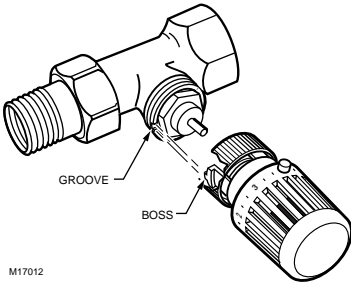

Fig. 5. Valve with groove in valve body neck.
1. Check for grooves in the neck of the valve body (see Fig. 5). If the neck does not have grooves, go to step 3.